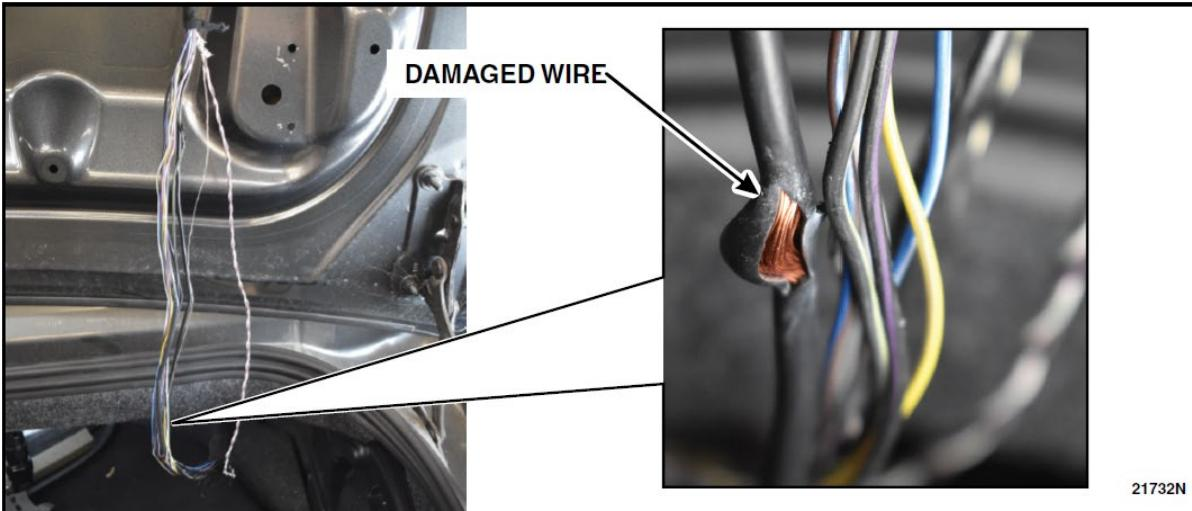

FIGURE 39
52. Inspect the entire exposed portion of the wiring harness for any sign(s) of damage or chafing. See Figure 39.